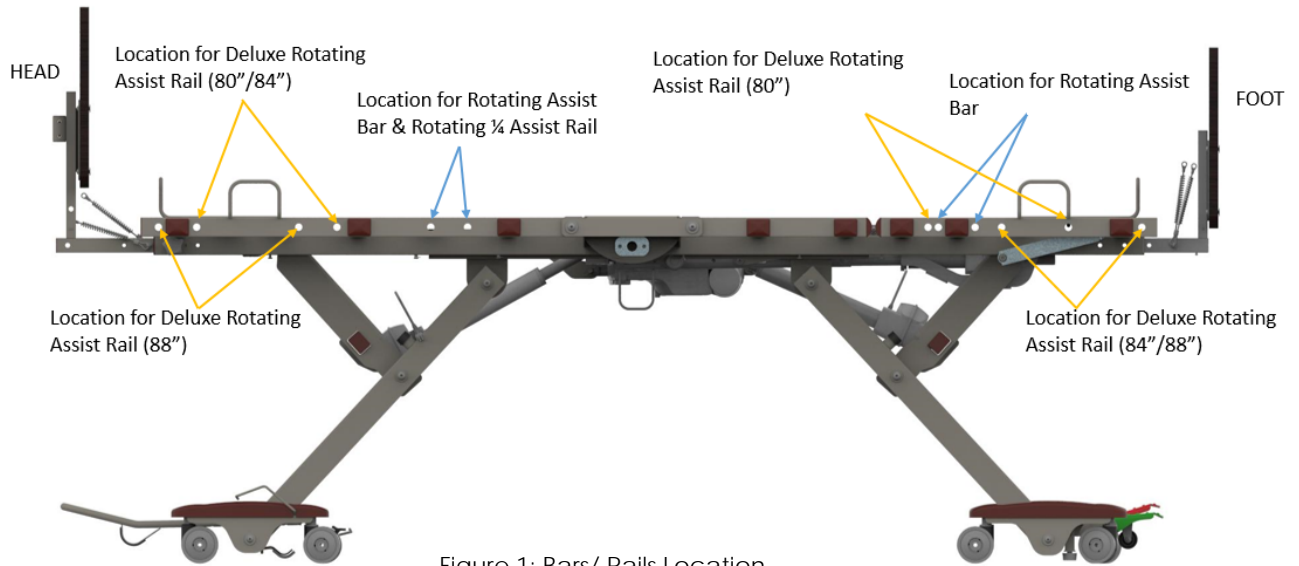

Figure 1: Bars/ Rails Location
3. Choose appropriate location holes for mounting according to the actual size of the sleep surface. The mounting location is shown in the Figure 1 above.
1. Choose appropriate location holes for mounting. The mounting location is shown in the Figure 1 above.